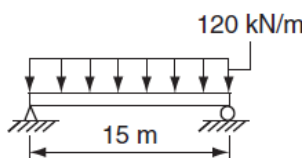

Figure 12 Question 25.
- 25.** A steel beam of breadth 120 mm and height 750 mm is loaded as shown in Figure 12. Assume $E_{\text{Steel}} = 200$ GPa.